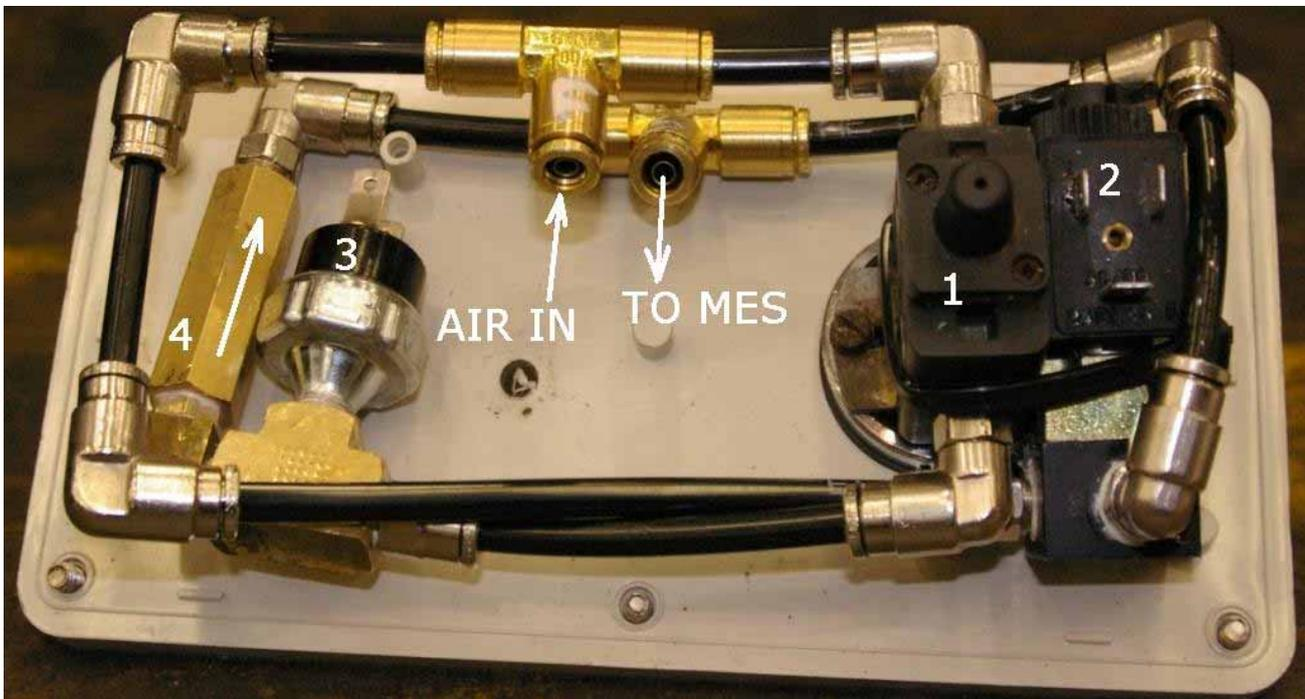

Figure 18 Emergency Stop Enclosure Pneumatic Circuit
83. Engine Strangler Emergency Shutdown Switch Removal (For Rebuilt Vehicles with Rollover Sensor). The fitting of the rollover sensor when the vehicle was rebuilt added a check valve, two tee fittings and a solenoid to the engine strangler shutdown switch pneumatic circuit. These extra components necessitate a larger control box (Figure 18 and Table 4). In addition, the emergency shutdown switch is removed because it was a backup to the original fire extinguisher shutdown system and is now redundant. Remove the emergency shutdown switch as follows: